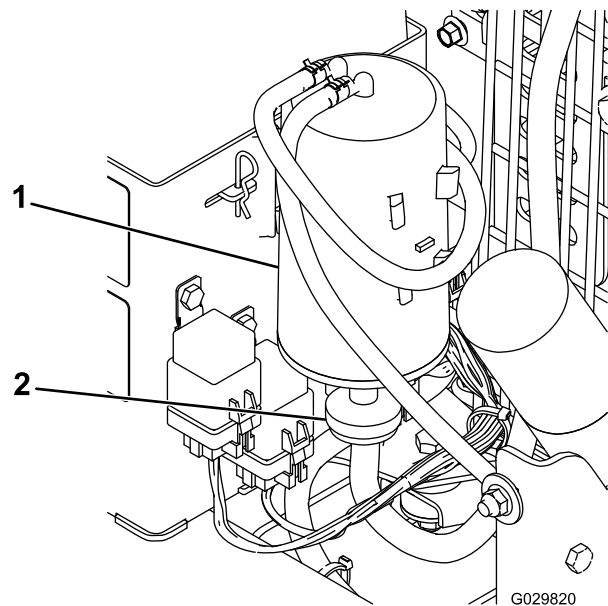

Figure 13
- 2. Remove and discard the carbon canister air filter (Figure 13).